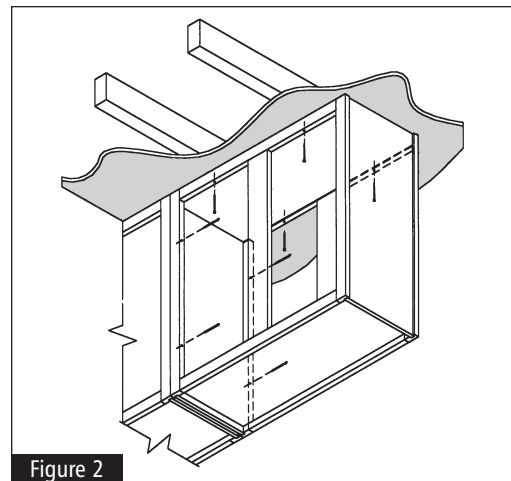
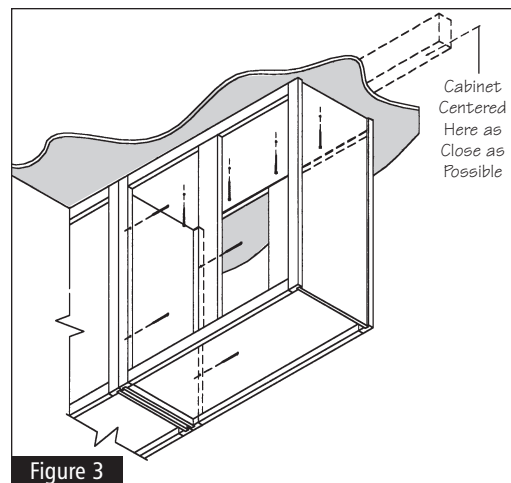

Figure 2
Figure 3
**2** Determine the location of the ceiling joists to which your Peninsula Wall Cabinet will install. If your ceiling joists run perpendicular to the width (the side-to-side dimension) of your Peninsula Wall Cabinet, you will attach the cabinet by inserting the screws through the cabinet horizontal frames. See Figure 2. If your ceiling joists run parallel with the length of your cabinets, you will insert the screws through the top panel of the cabinet. See Figure 3.